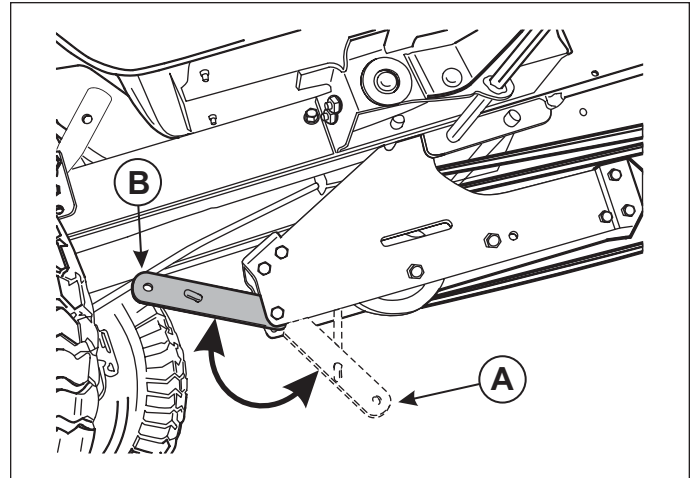
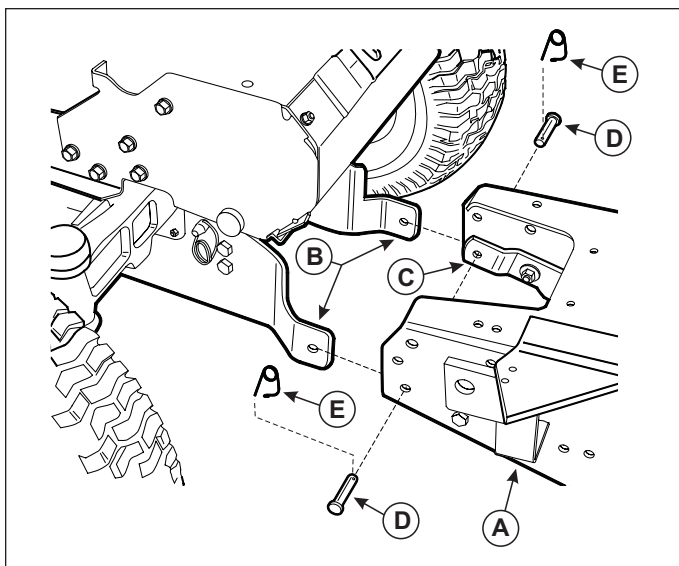

Figure 15. Belt Tension Lever
Figure 14. Snow Thrower Installation
- Remove both quick clips (E, Figure 14) and mounting pins (D) from the snow thrower.
- Align the hitch mounting arms (B) with the snow thrower mounting tabs (C) and slide the snow thrower into position.
- Insert mounting pins (D) and secure with quick clips (E).
- Locate the belt tension lever (B, Figure 15) at the rear of the hitch assembly and rotate it into the released position (A).
8. Rotate the belt tension lever upwards into the locked position (B, Figure 15), fully tensioning the snow thrower drive belt.